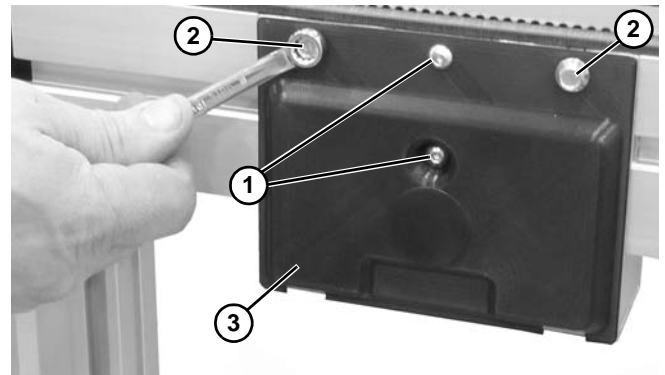

Figure 32
- Remove button head screws (**Figure 32, item 1**).
- Remove hex flange screws (**Figure 32, item 2**) and mid drive cover (**Figure 32, item 3**). Replace hex flange screws (**Figure 32, item 2**), but do not tighten.